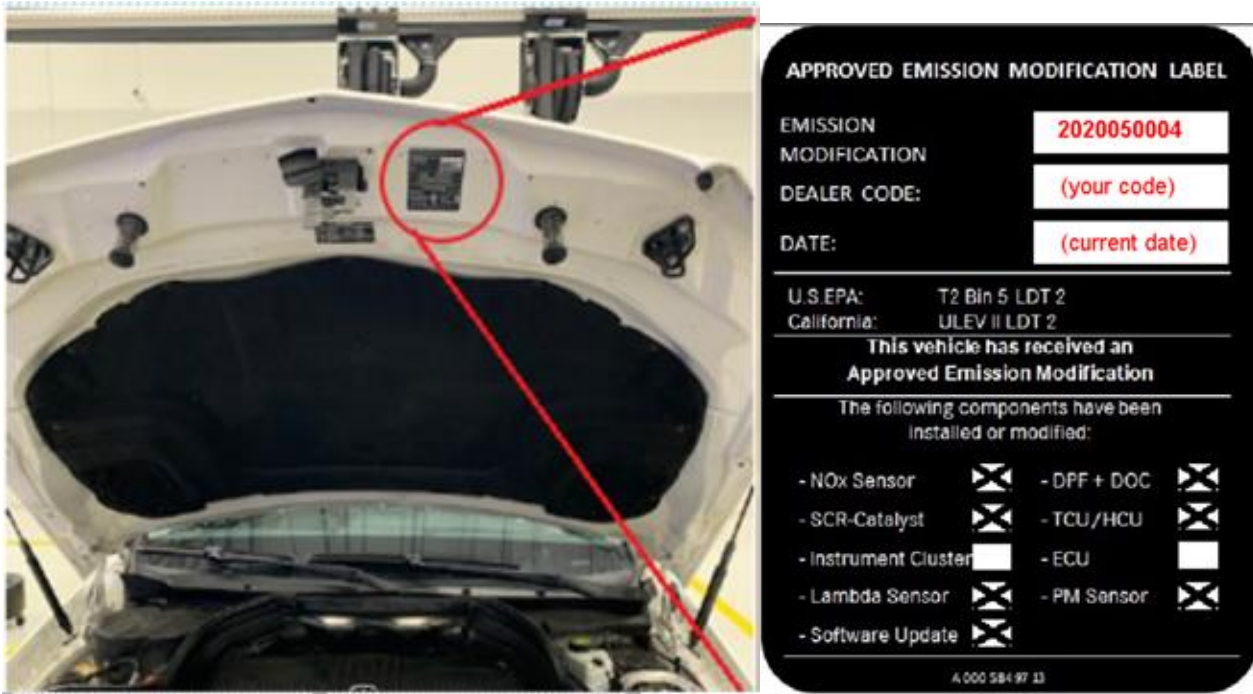

Figure 15
18. Clean the bonding surface of the hood and attach the adhesive label (Figure 15).